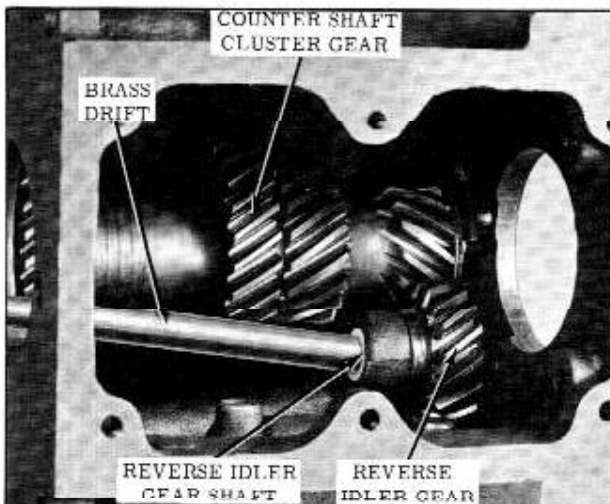

Fig. 10-11 Removing Idler Gear
15. Using a long brass drift, drive the reverse idler gear shaft out the rear of the case and remove idler gear from case. (Fig. 10-11)